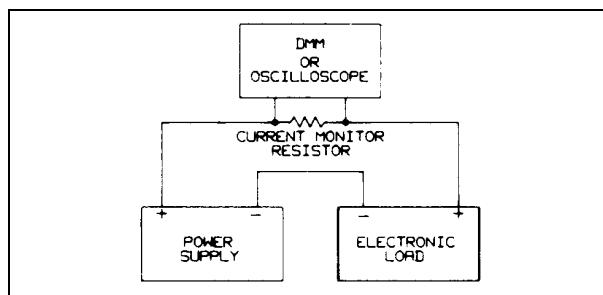

Figure 2-1. Test Setup A
Table 2-1 lists the test equipment required to perform the tests in this chapter. Test setups for the tests are shown in Figures 2-1 through 2-3. Make sure the sense switch on the rear of the module is set to the LCL position since local sensing is used in all of the test setups. Use adequate wire gauge when making connections (see Chapter 3 in the Operating Manual).
- a. Connect the Electronic Load, power supply (Agilent 6032A or equivalent), DMM, and current monitor resistor (0.100 ohm) as shown in Figure 2-1.
- a. Connect the Electronic Load, power supply (Agilent 6035A or equivalent), and current monitor resistor (0.100 ohm) as shown in Figure 2-1. Use the DMM to measure the voltage across the monitor resistor and across the module's input terminals.
- a. Use the test setup of Figure 2-1 except connect an oscilloscope across the 0.100 current monitor resistor in place of the DMM. Set power supply for 10V and 10A.